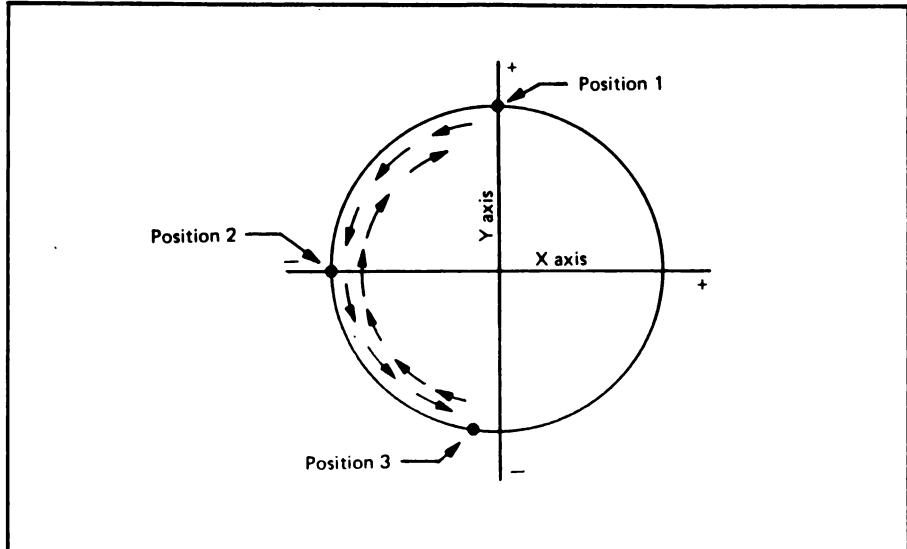

FIGURE 5.9 CYLINDER-000 STOP-ADJUSTMENT PATTERN
- (d) Hold down the servo-release switch (located at the top of the motherboard, to the left of J3) and manually turn the head positioner. The oscilloscope trace should be a lissajous figure of circular form as shown in figure 5.9 (since the almost-sinusoidal input-signals to the vertical and horizontal deflexion plates of the oscilloscope are of equal gain and frequency and 90° out of phase, they trace an approximate circle when allowed to pass through a full cycle)
- (e) Manually turn the head positioner fully-clockwise to retract the head carriage as far as possible and release the servo-release button. The cylinder pointer should indicate cylinder-000. Using the horizontal position knob on the oscilloscope, centre the dot on the top part of the oscilloscope Y-axis [see figure 5.9, (position 1)]
- (f) Hold down the servo-release button. With slight pressure, force the head positioner against its crash stop. The oscilloscope trace should move round the circle and stop just before position 2 of figure 5.9. (Some oscilloscopes will show this trace moving clockwise around the circle instead of counter-clockwise. To check, touch the X-plate lead on the +5 volt rail: if the oscilloscope trace moves to the right, the adjustment pattern should be the same as in figure 5.9.) If the trace moves to the left the lissajous figure will be reversed left to right
- (j) Transfer the load/run switch from LOAD to RUN and back to LOAD, several times. The trace should swing a maximum arc of $145^\circ \pm 35^\circ$ from the top Y-axis position to an equivalent position on the negative part of the Y-axis, travelling in a counter-clockwise direction (see figure 5.9, position 3). If it exceeds 180° , repeat the procedure from sub-section (c)